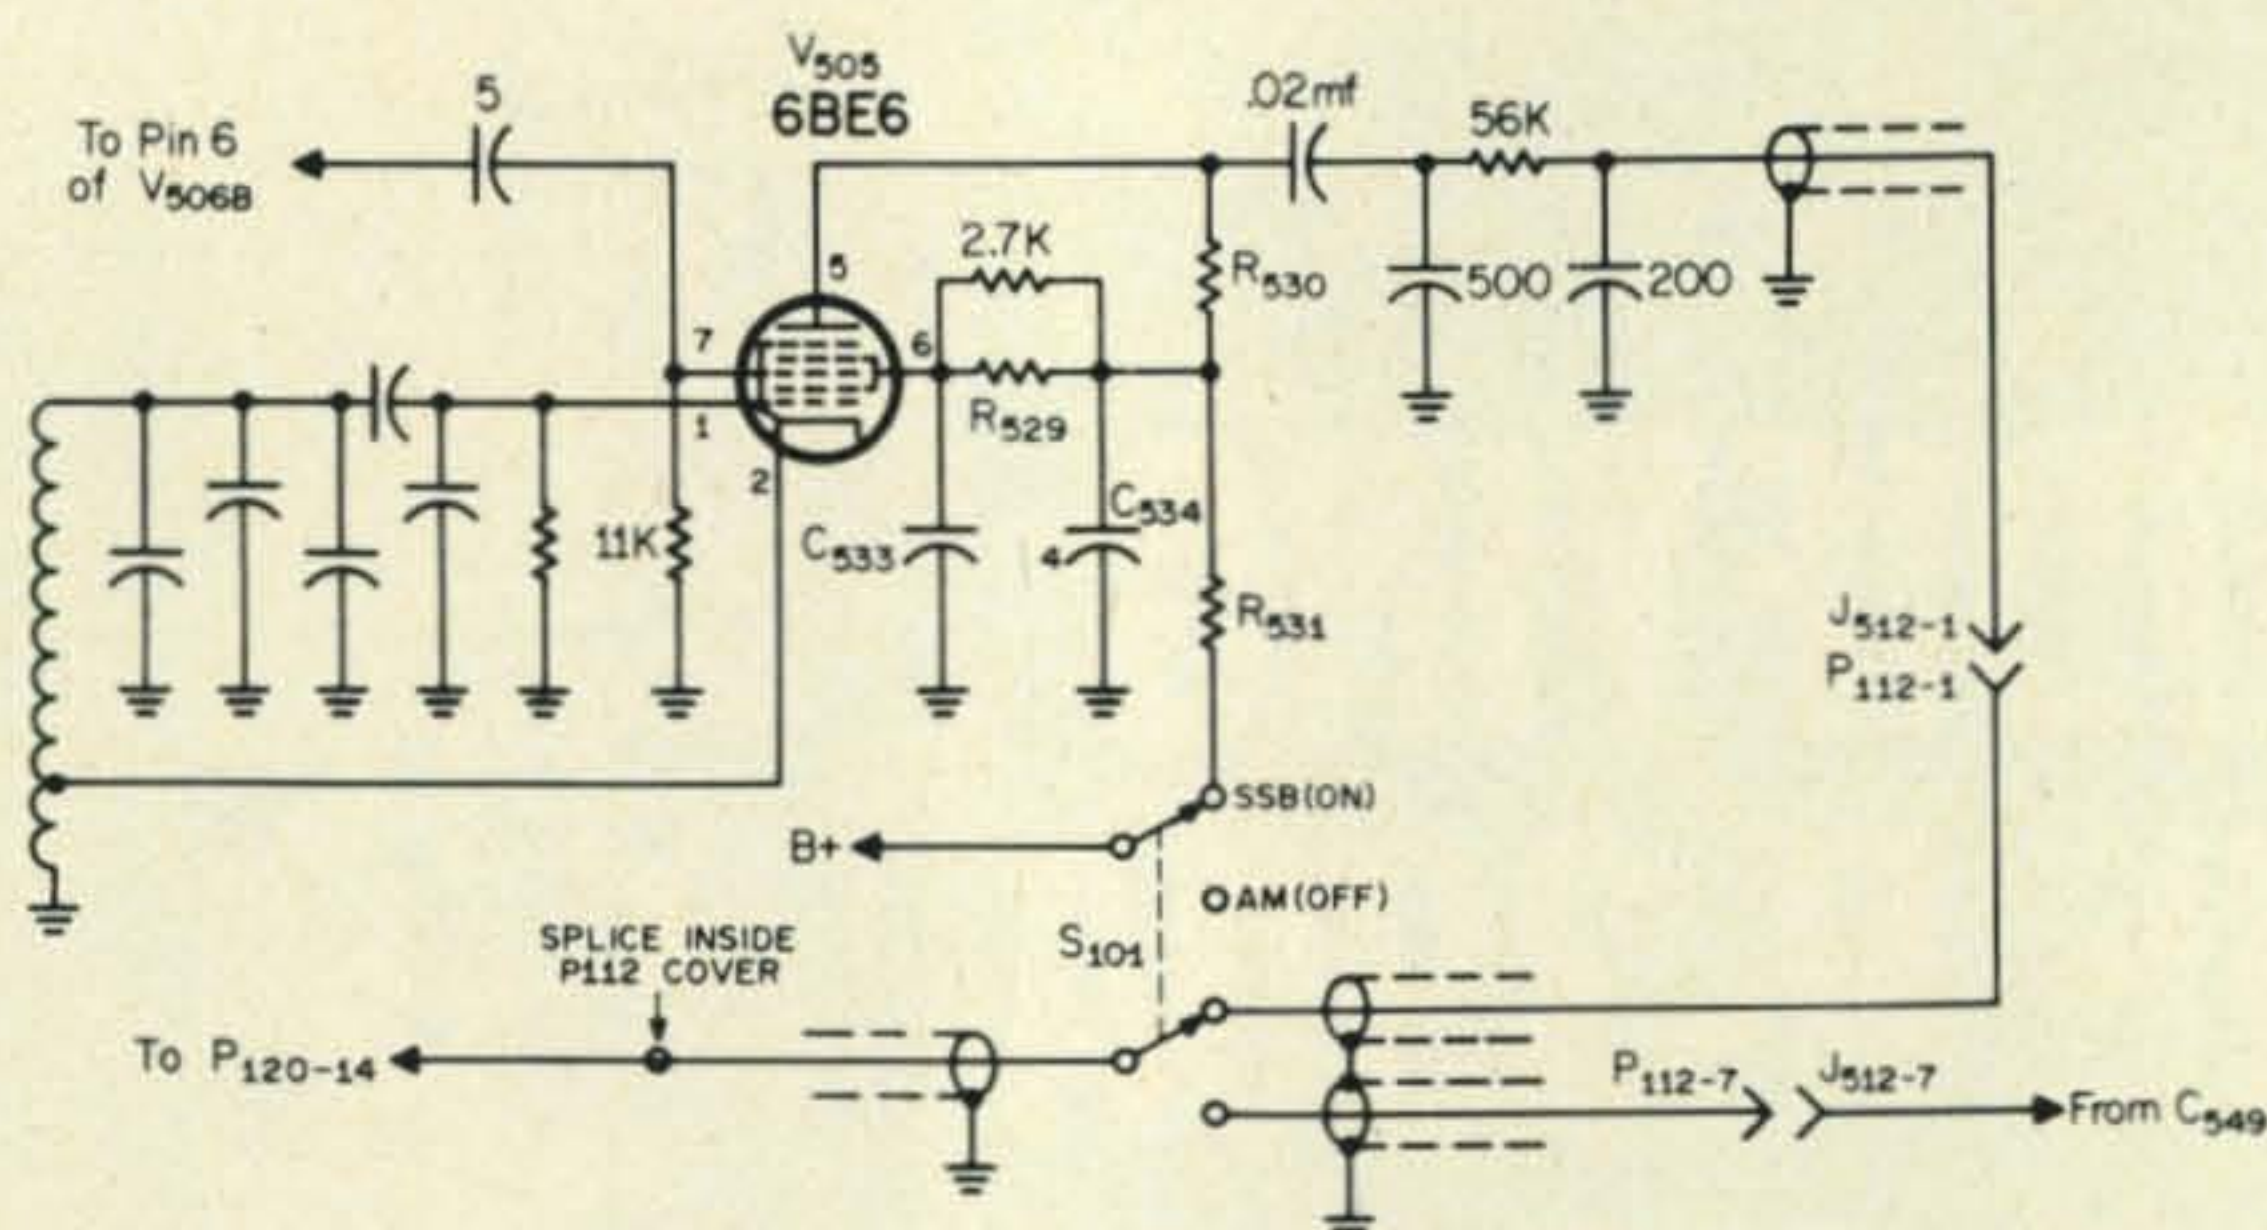

Fig. 1—Circuit of the product detector wired in place of the beat frequency oscillator. S_{101} is the new b.f.o. switch.
3. Take the new switch, a 2 pole two to six position unit, (only 2 of the 6 positions are used) for S_{101} , and connect these three shielded leads to it to form the audio change-over circuit. See fig. 1. Under the head of the machine screw holding one side of the switch wafer to the switch frame install a small soldering lug. Solder the pigtail to it, to ground (at this end only) the individual shield braids of the 3 audio wires.
4. Insert the free ends of the 3 wires through the opening at the edge of the i.f. shelf, pull them upward above the i.f. chassis, and mount the new switch in the vacant S_{101} hole in the front panel. Replace the knob. Connect the b.f.o. B+ wires to the other pole of the switch. The b.f.o. B+ is to be *on* in the B.F.O. ON position, which will become the SSB position of S_{101} . See the schematic in fig. 1.